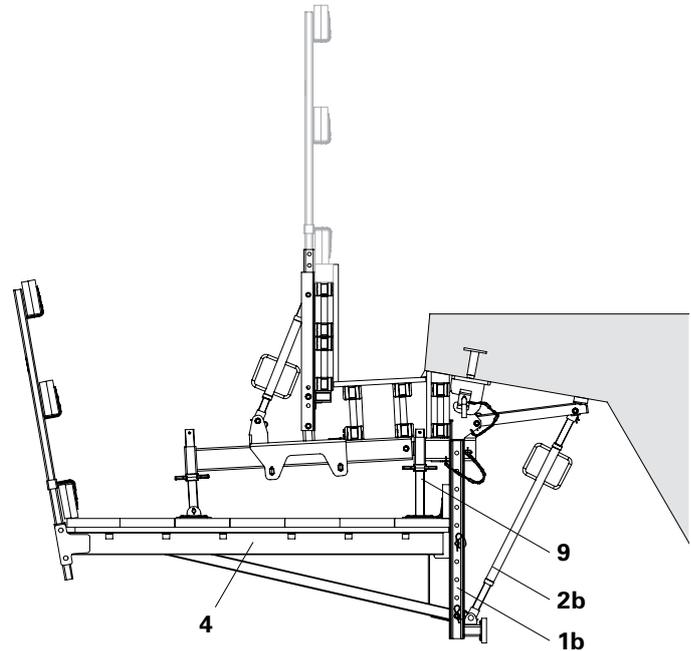

Fig. A4.02a
- The Kicker AV 111 (2b) is always connected to the base of the Bracket Post VGK 110 (1b) by means of bolts and cotter pins. (Fig. A4.02a)